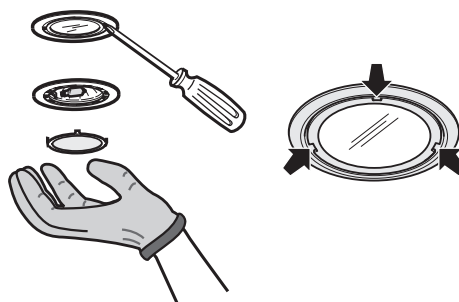

Fig. 4
Replacing bulbs - Fig. 4
2. Use a small screwdriver to gently prise the lamp cover off (at the points indicated in Fig. 4).